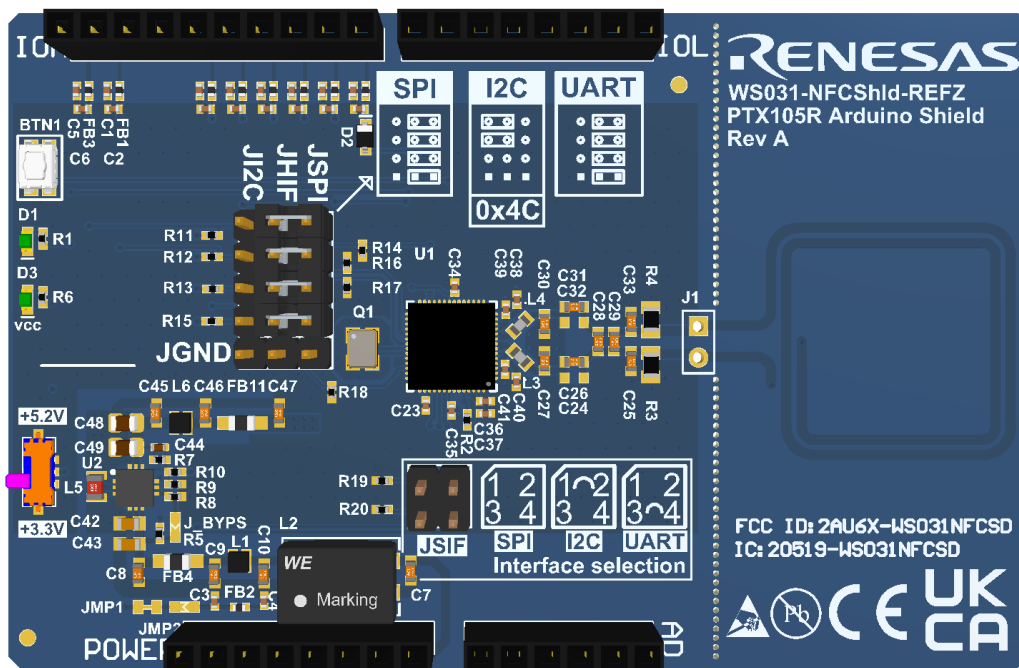

Figure 1. Default Jumper Configuration
- Figure 1. Default Jumper Configuration2
The default jumper configuration is placed to enable SPI as interface between the Arduino Uno and the shield. Figure 1 shows the jumper configuration. The interface selection JSIF needs to be open. The JSPI jumper pins need to be shorted to JHIF.